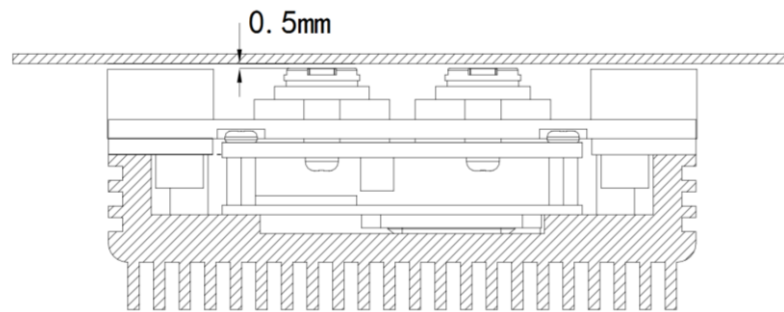

Figure 8.2 Distance between lenses and transparent material
- 5) We recommend you reserve 0.5 mm between the lenses and transparent material to avoid module size tolerance and lens focusing errors on assembly, as shown in Figure 8.2.